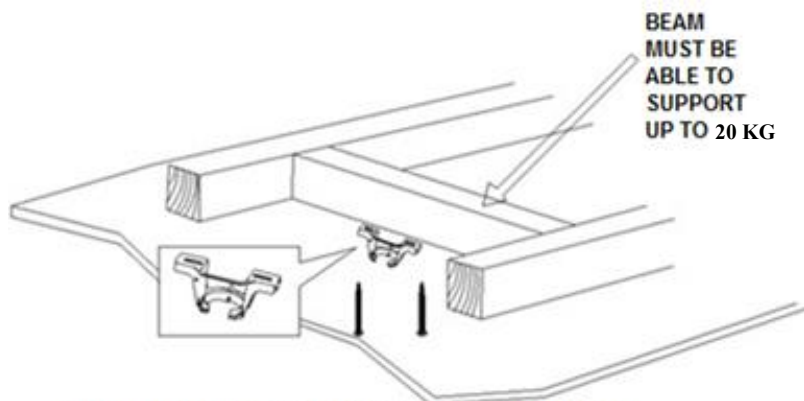

Fig. 2
- Install the hanging bracket to the ceiling joist or structure that is capable of carrying a load of at least 20kg, with two long screws provided. Ensure at least 30mm of the screw is threaded into the support. (Fig. 2)